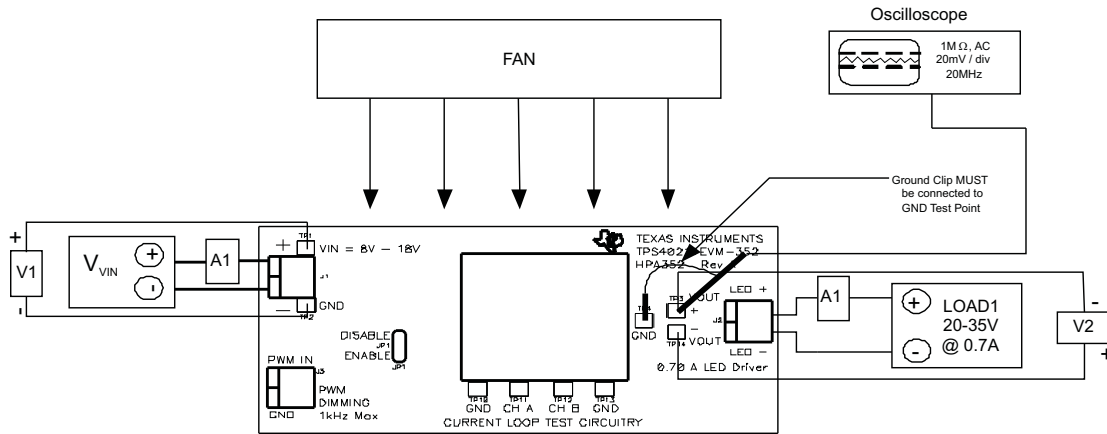

Figure 2. TPS40211EVM-352 Recommended Test Set-Up
The input voltage source (V_{IN}) should be a 0-V to 18-V variable dc source capable of 4 A_{DC} . Connect V_{IN} to J1 as shown in Figure 2.
Shown in Figure 2 is the basic test set up recommended to evaluate the TPS40211EVM-352. Note that the return for J1 and JP3 are not the same system ground. The connections should remain separate as shown in Figure 2.
2. Prior to connecting the dc input source, V_{IN} , it is advisable to limit the source current from V_{IN} to 4.0 A maximum. Make sure V_{IN} is initially set to 0 V and connected as shown in Figure 2.
3. Connect the ammeter A1 (0 A to 4 A range) between V_{IN} and J1 as shown in Figure 2.
4. Connect voltmeter V1 to TP1 and TP2 as shown in Figure 2.
5. Connect LOAD1 to J3 as shown in Figure 2. Set LOAD1 to constant current mode to sink 0 A_{DC} before V_{IN} is applied.
6. Connect voltmeter, V2 across TP7 and TP8 as shown in Figure 2.
4. Connect oscilloscope probe to TP14 and TP15 as shown in Figure 2.